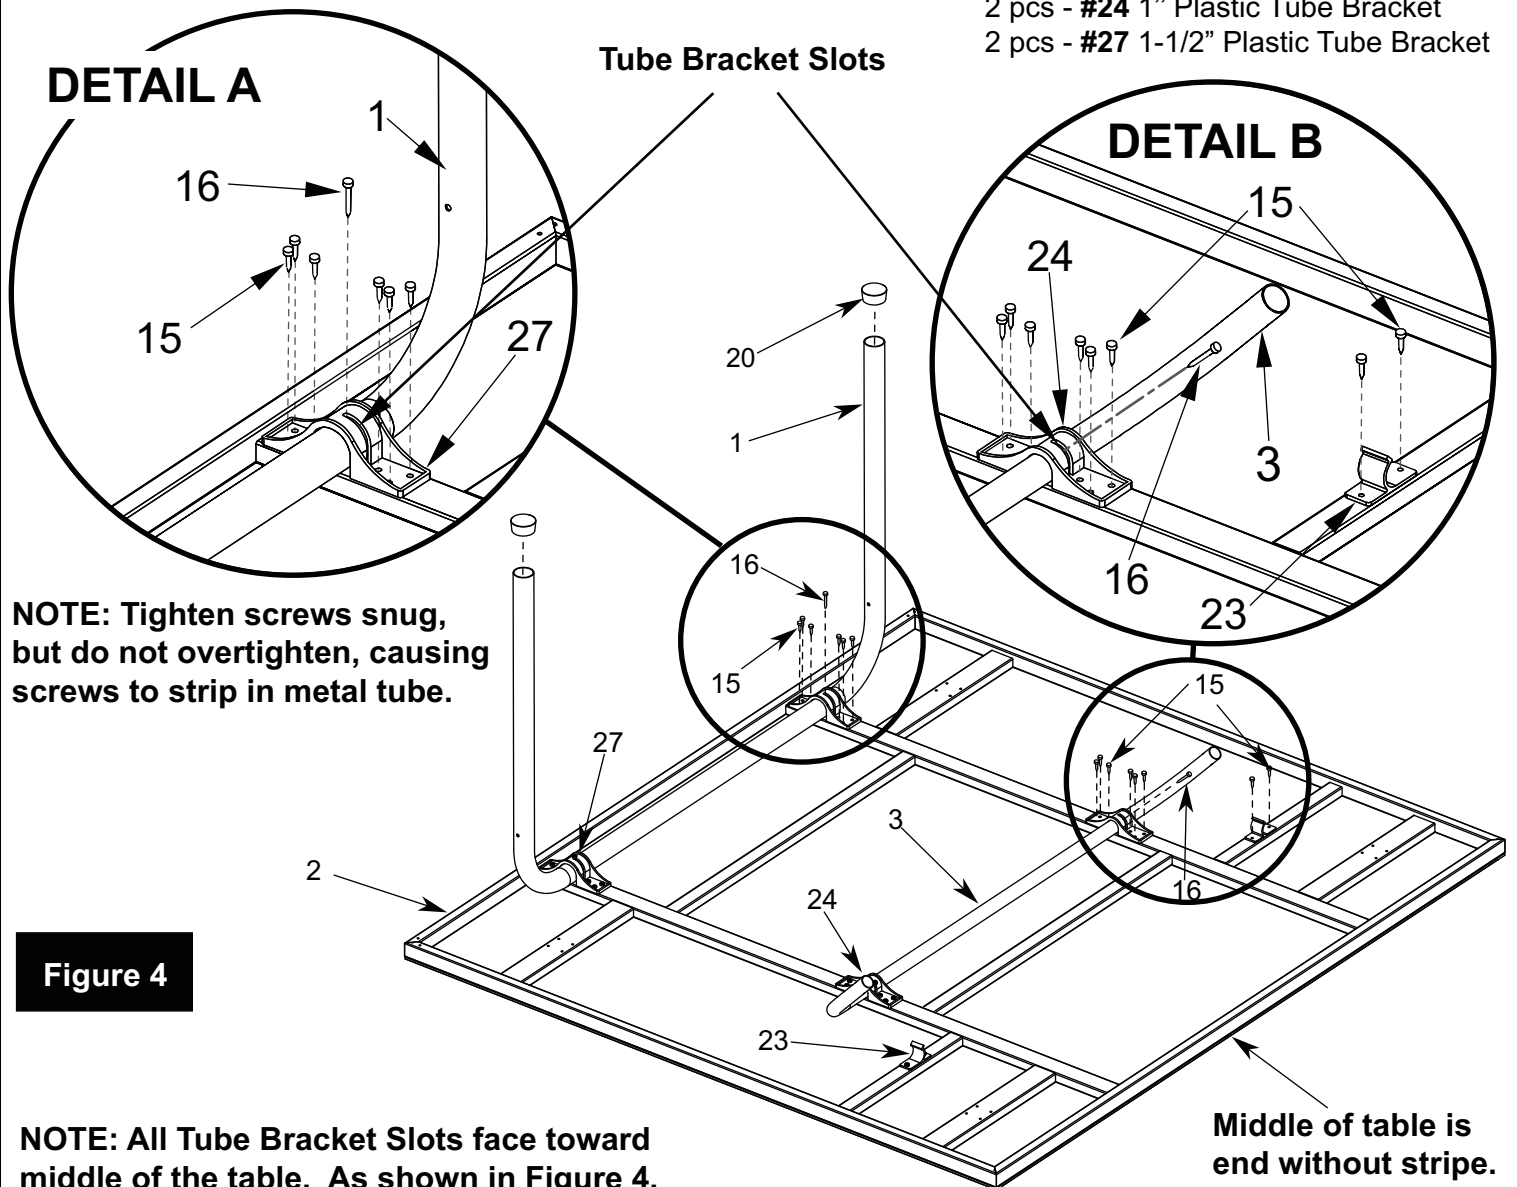

Figure 4
4. **A)** Attach two 1" Plastic Clips (#23) to bottom of aluminum top assembly using four Screws (#15) as shown in **FIGURE 4** and **DETAIL B**.
- B)** Attach U-Leg (#1) with two 1-1/2" Plastic Tube Brackets (#27) as shown in **FIGURE 4** and **DETAIL A**. Attach with twelve Screws (#15). **CAUTION: Slots in Plastic Tube Brackets (#27) must face toward middle of table exactly as shown or the table will not operate properly.**